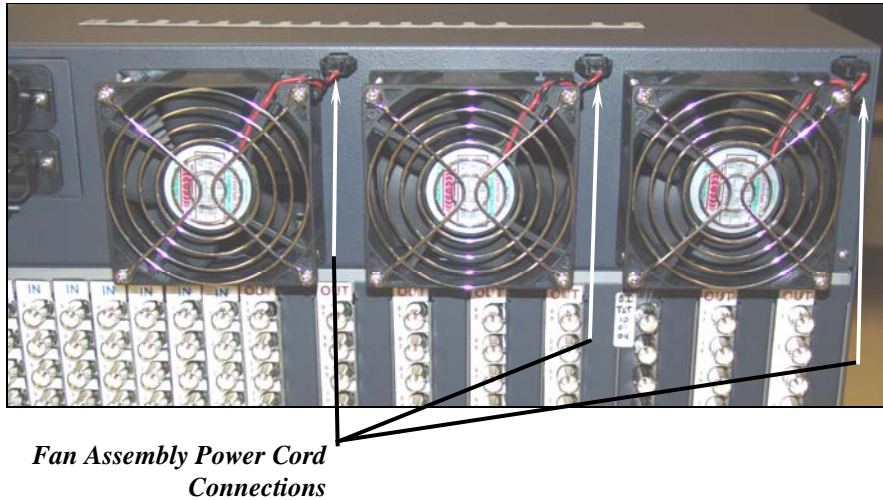

FIGURE 90: 128x128 Fan Assemblies and Associated Power Connections
These switchers are equipped with three, surface-mounted fan assemblies (see Figure 90) that are easily removed from the rear exterior of the chassis.
1. Disconnect the fan power cord (see Figure 90) from the chassis fan power receptacle.